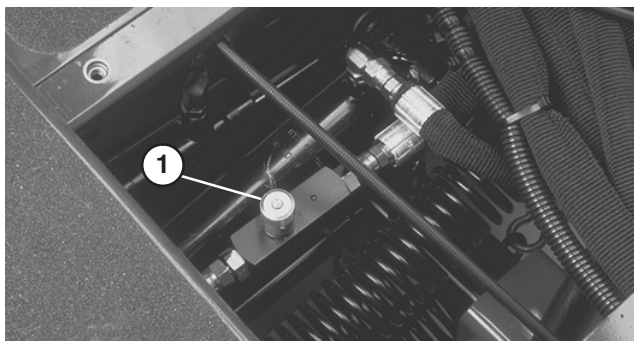

Figure 62
1. Locate valve behind access panel above operator's platform (Fig. 62).